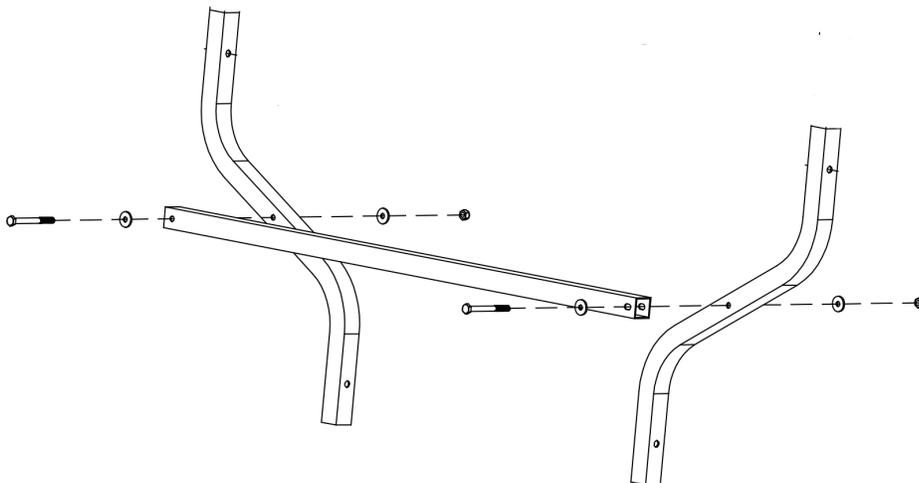

Figure 32
STEP 17: Assemble the ladder adapter using two (2) $\frac{1}{4}$ " x $2\text{-}3/4$ " bolts, four (4) washers and two (2) nuts as seen in Figure 32. Do not tighten nuts yet.